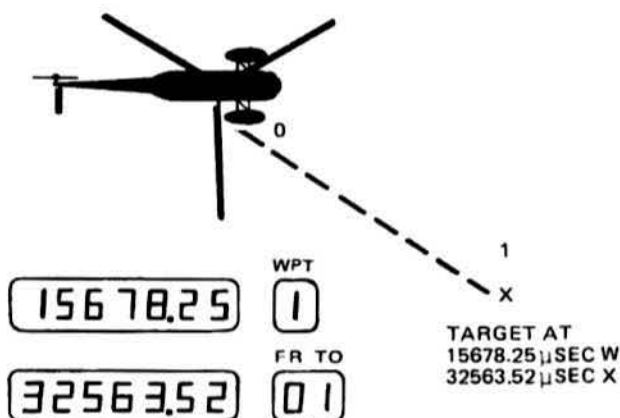

Figure 4-33. Waypoint Entry in Time Differences
If a report of a target at a certain TD fix is received without regard to lat/long, enter those TDs as a waypoint, then enter a leg change of 01. Navigation from present position (0) to that fix (1) is provided (figure 4-33).